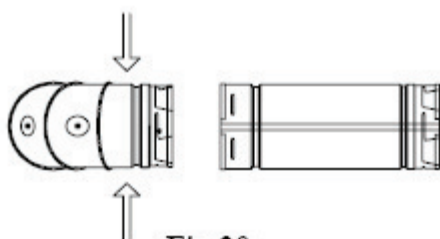

Fig 20
3. **90° Elbows.** Figure 20. The installer should apply pressure to the section at the points indicated by the arrows. This will prevent the adjacent sections of the elbow from turning, as the next pipe or fitting is twist-locked on. This is important, because once these sections start rotating, the elbow